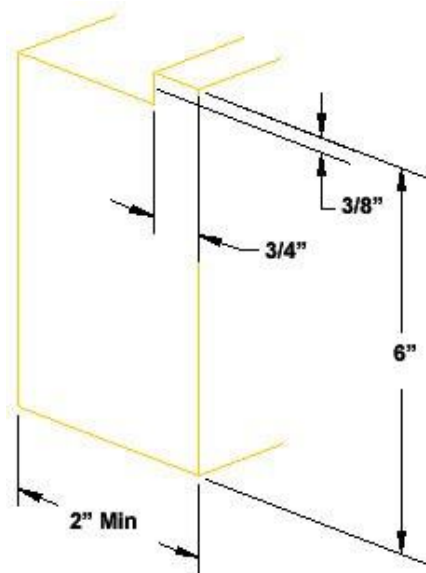

Fig. 23
5. Notch the top of the Closure Block to accept the Dryvit Track, as shown in Figure 23. NOTE: Dryvit Starter Strips can be used above windows, doors, etc. This will minimize the required field notching to only L-shaped closure blocks at the corners.